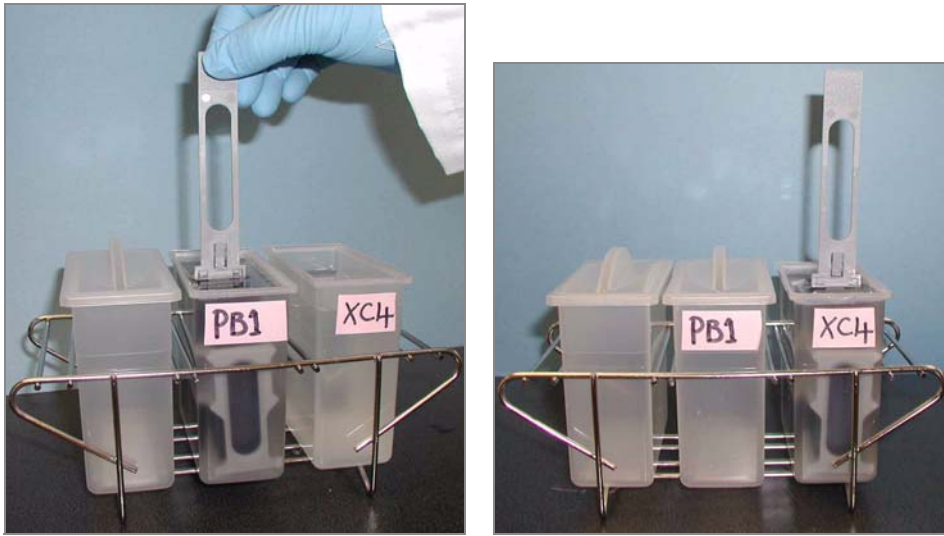

Figure 67 Moving BeadChips from PB1 to XC4
13. Remove the staining rack from the PB1 dish and place it directly into the wash dish containing XC4 (Figure 67). The barcode labels on the BeadChips must face **away** from you, while the locking arms on the handle face **towards** you, for proper handling and coating.